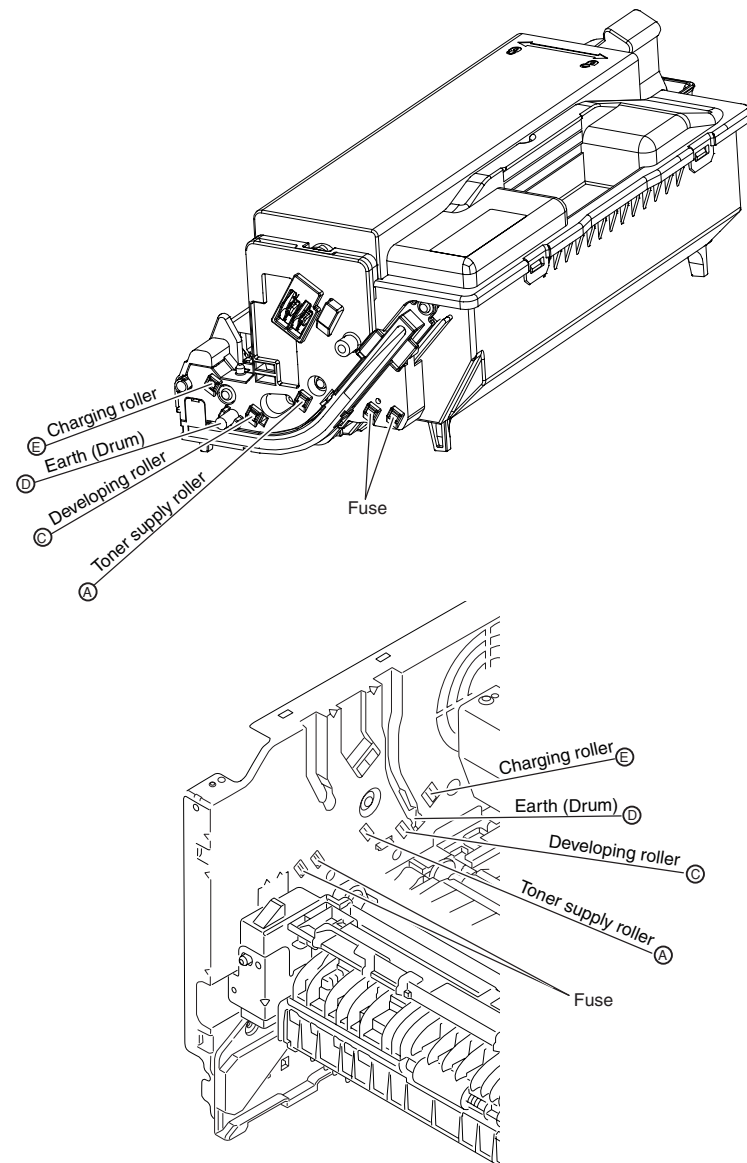

Figure 7-2
- Yes Are the contact of the developing roller and toner supply roller of the image drum cartridge appropriately connected to the contact assembly? (See Figure 7-2 (A) and (C))
- Yes Is the image drum cartridge appropriately connected to the earth contact? (See Figure 7-2 ㉔)